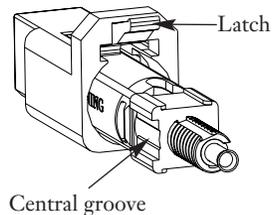

Figure 4-5
**4.3-4** Examine the connector to make sure it is in its open position. On LC connectors the cam is in its open position when the central groove on the cam is 90° from the latch which secures the front dust cap (Figure 4-5).